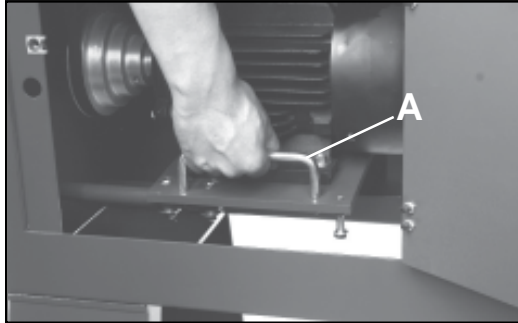

Fig.08
- 3.) Raise the motor by pulling upwards on the motor lifting handle (A-Fig. 08).